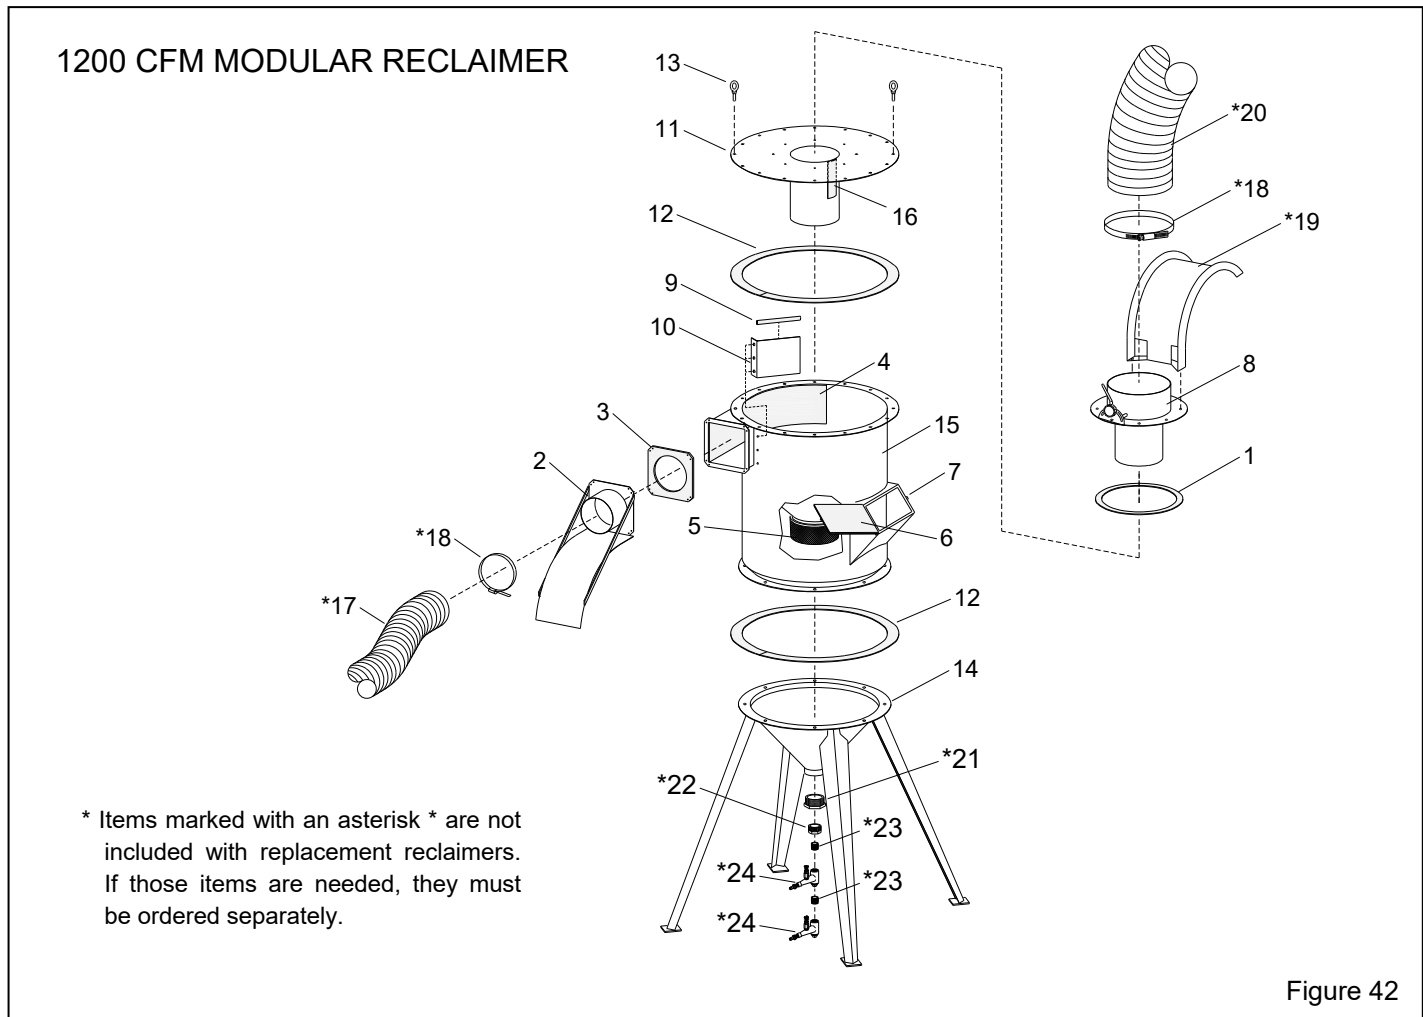

Figure 42
Refer to Figure 42 for 1200 cfm reclaimer replacement parts.
9.12 1200 CFM Modular Reclaimer Replacement Parts – Figure 42